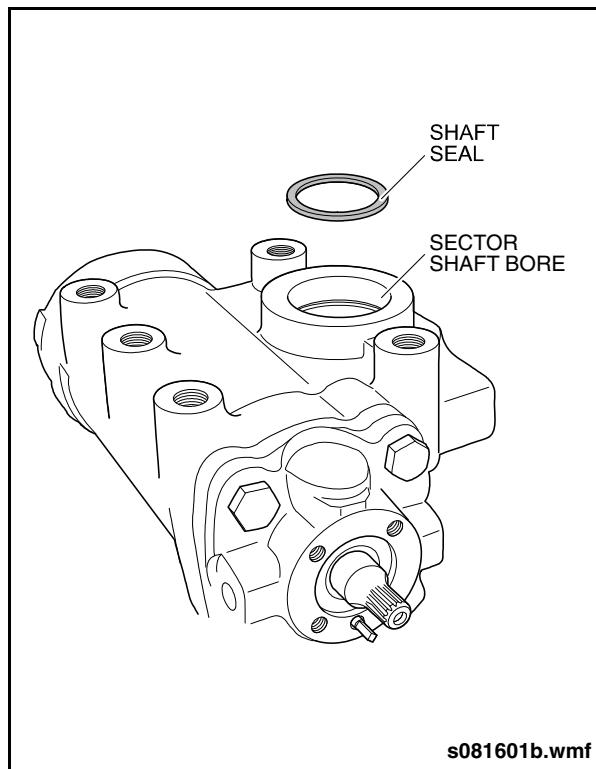

Fig. 3-23: Sector Shaft Seal Installation
2. Install sector shaft seal in housing and coat with oil. See "Fig. 3-23: Sector Shaft Seal Installation" on page 40. Ensure lip of seal is toward housing and blue side of seal faces outward.